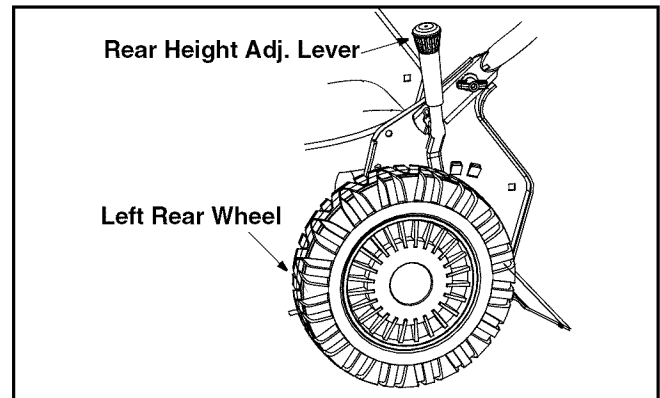

Figure 12
- Pull the rear height adjustment lever out and away from the mower and then move it forward or backward to another slot. For rough or uneven lawns, move the height adjustment lever to a higher position. This will help stop scalping. See Figure 12.